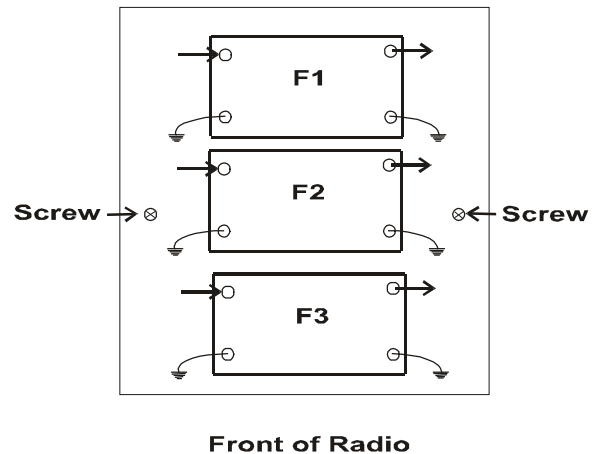

Figure 2.10-2 Filter Location Showing Ground orientation
8. Locate the location to insert the specific filter into. Refer to Figure 2.10-2. This is according to the Filter Cover, and not the circuit board text. The order is shown on the Filter Cover as F1, F2, F3 going from back of the rig towards the front of the rig. The ground pins are easily distinguished by the way the pins and